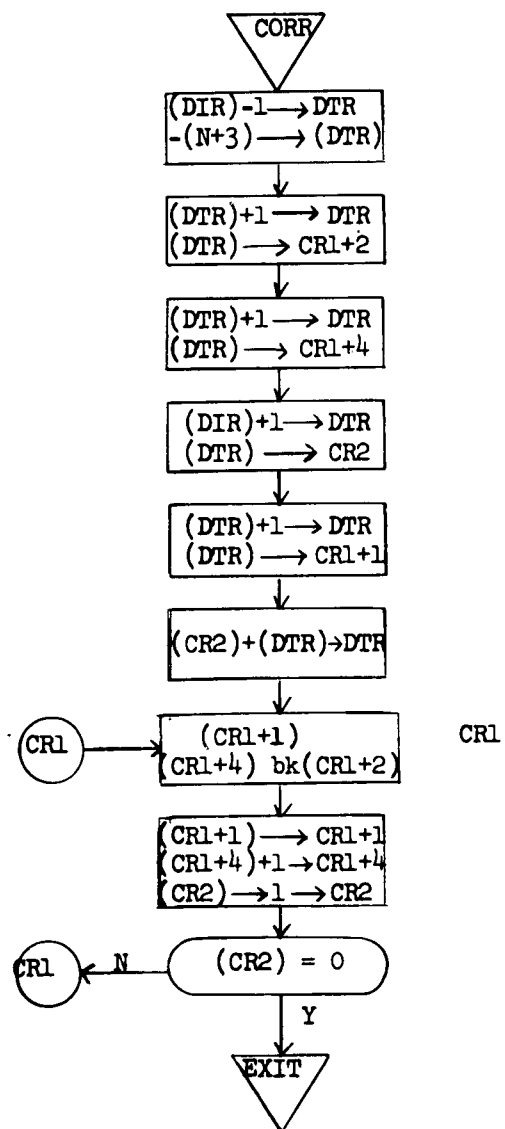

Figure 7.17A CORR
7.3.1 CORR Correct Subroutine (Figure 7.17A)